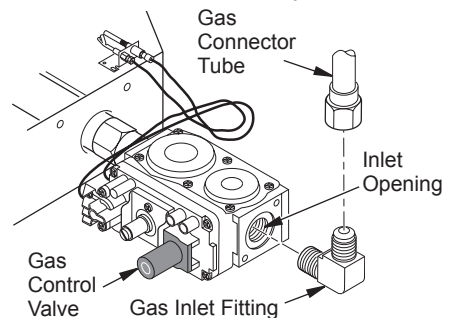

Figure 9 - Installing Inlet Fitting and Gas Connector Tube (Valve May Vary from Illustration)
6. Install the inlet fitting into the inlet opening of the gas control valve (see Figure 9). Use thread sealant on the male pipe threads.
9. Install the gas connector tube to the gas supply adaptor. Carefully shape tube and attach to gas inlet fitting (see Figure 9, page 5). Be careful not to cause kinks in tube.